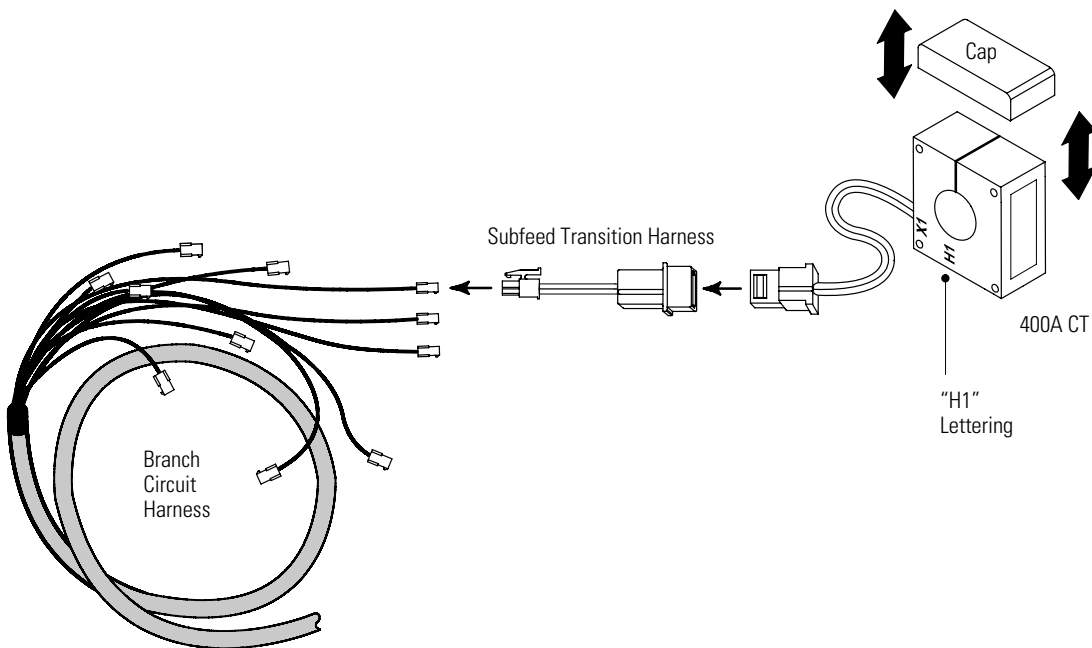

Figure 10. Subfeed Monitoring Connections
9. **Subfeed Accessory only.** Locate the Subfeed Accessory Kit (three subfeed transition harnesses and three 400A CTs). Connect a subfeed transition harness to each CT. See Figure 10.